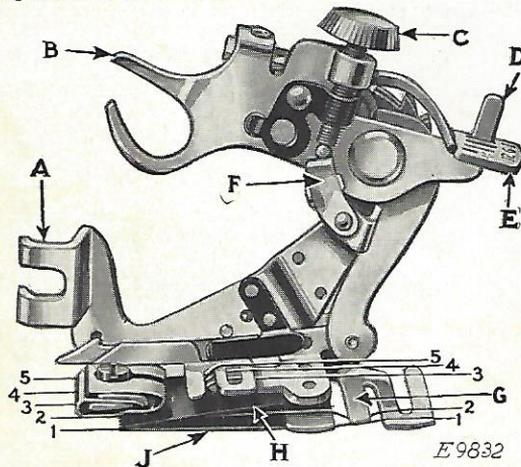
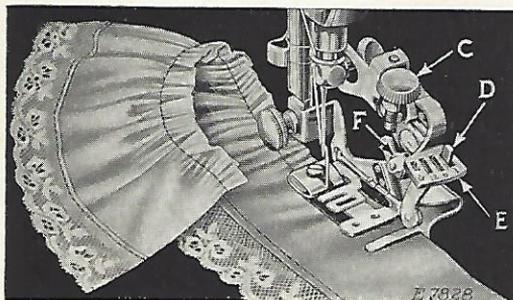
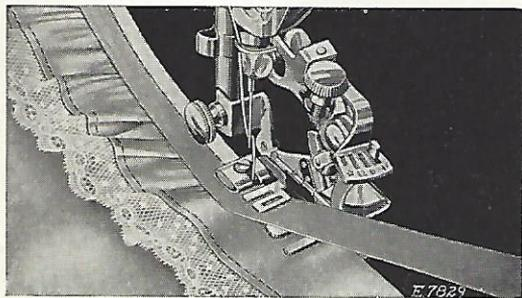
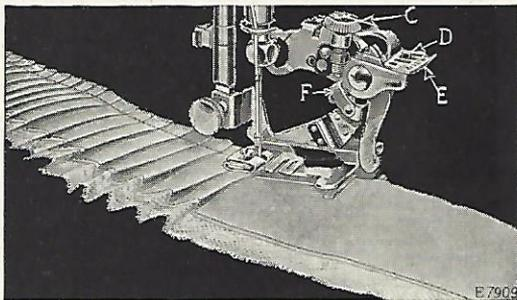

FIG. 36. THE RUFFLER AND ITS PARTS
Fig. 37
FIG. 39
FIG. 41
Lines 1, 2, 3, 4 and 5 shown in Fig. 36 indicate where the material is to be placed for various operations, as follows:
Refer to Fig. 36 when inserting the material in the ruffler.
(SEE REFERENCES IN FIG. 36)
Raise the needle bar to its highest point and remove the presser foot. Attach the ruffler foot (A, Fig. 36) to the presser bar by means of the thumb screw, at the same time placing the fork arm (B, Fig. 36) astride the needle clamp as shown in Fig. 37.
The adjusting finger (F, Fig. 37) is not intended for gathering and should be moved forward or away from the needle, as shown in Fig. 37.
Raise the adjusting lever (E, Fig. 37) and move it to the left so that the projection (D, Fig. 37) will enter the slot marked "1" in the adjusting lever (E) when the lever is released. The ruffling blade will then move forward and back once at every stitch. Insert the material to be ruffled between the two blue blades, following the line 2 in Fig. 36. Draw the material slightly back of the needle, lower the presser bar and commence to sew.
To make fine gathering, shorten the stroke of the ruffling blade by turning the adjusting screw (C, Fig. 37) upwardly; also shorten the stitch. To make full gathering, lengthen the stroke of the ruffling blade by turning the adjusting screw (C) downwardly, also lengthen the stitch. By varying these adjustments, many pleasing varieties of work can be accomplished.
2, in Fig. 36. Place the garment to which the ruffle is to be attached, under the separator blade, following the line 1, in Fig. 36. Proceed the same as for gathering.
Insert the material to be ruffled between the two blue blades, following the line 2, in Fig. 36. Place the garment to which the ruffle is to be attached, under the separator blade, following the line 1, in Fig. 36. Place the material for the facing over the upper blue blade, as shown in Fig. 39, following the line 3, in Fig. 36. The facing may be straight or bias material. If the facing is to be on the right side of the garment, place the garment and
Insert the material to be ruffled between the two blue blades, following the line 2, in Fig. 36. This
The material for piping must measure about $\frac{1}{4}$ inch wide when folded in the centre and is usually cut on the bias. Place the piping material in the ruffler, following the line 4, in Fig. 36, with the folded edge of the piping to the right. The material to which the piping and ruffling are to be sewn should be folded on the edge and inserted in the ruffler, following the line 5, in Fig. 36.
Raise the adjusting lever (E, Fig. 41) and move it to the right so that the projection (D, Fig. 41)
will enter the slot marked "6" in the adjusting lever when the lever is released. The ruffling blade will then move forward and back once at every six stitches. To adjust the ruffling blade to make a plait once at every twelve stitches, place the adjusting lever (E, Fig. 41) so that the projection (D) enters the slot marked "12" in the adjusting lever. Insert the material to be plaited between the two blue blades, following the line 2 (Fig. 36). The size or width of plaits is regulated by the adjusting screw
(C, Fig. 41) and the adjusting finger (F, Fig. 41). To make a wider plait, move the adjusting finger (F) back or toward the needle and turn the adjusting screw (C) downwardly. To make a smaller plait, turn the adjusting screw (C) upwardly. The distance between plaits is regulated by the length of stitch.